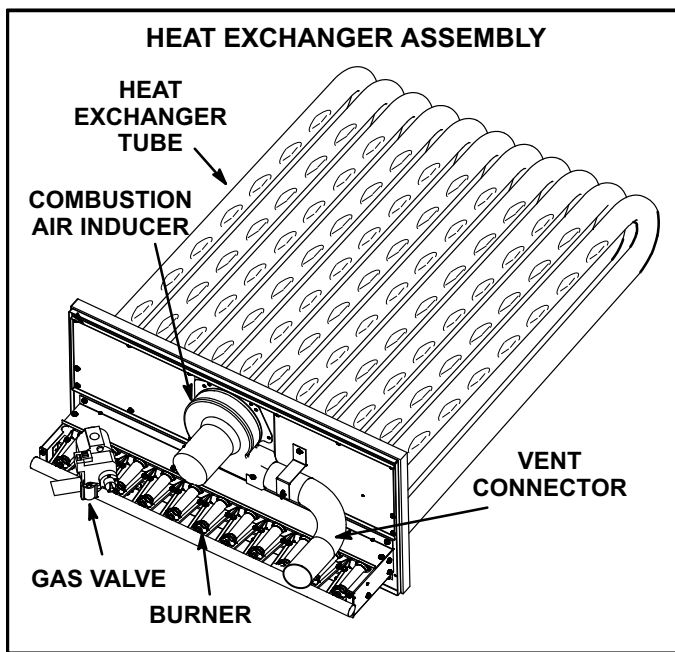

FIGURE 28
- 3- Remove and retain screws securing combustion air inducer to flue box. Remove and retain two screws from bracket supporting vent connector. See figure 28.